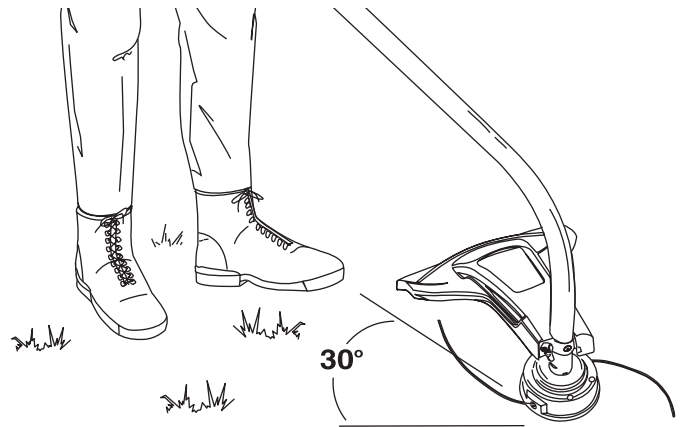

Fig. 14
**IF COLD...** For cold weather conditions (below 40°F), flip the Cold Weather Start Lever (Fig. 14) down to the start/closed position and continue to step 3. **DO NOT** flip this lever down if the temperature is above 40°F.
Rotate the whole unit so that the cutting attachment is at a 30° angle to the ground (Fig. 14).